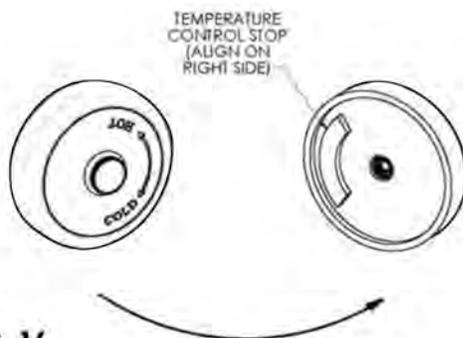

FIG. 16
9. Place the temperature control knob onto the cartridge stem so the temperature stop on the knob is aligned to the right of the faucet (fig. 16 - 17).